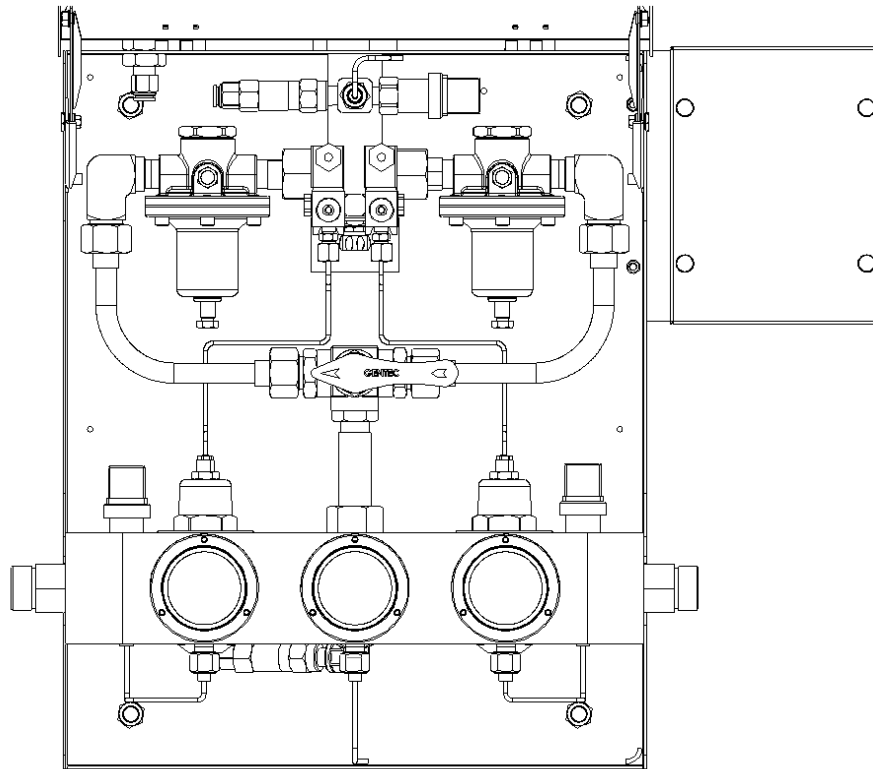

Figure 14
15. Turn 3-way ball valve indicator towards the left as shown in Figure 14. The gas flow should be directed towards the left side line regulator.